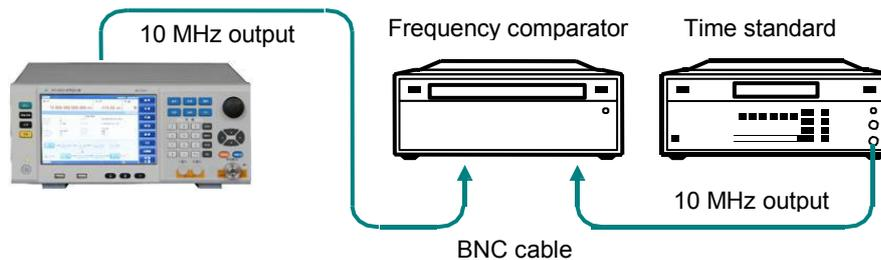

Figure 7.3 Test on internal time base aging rate
1. Connect equipment as shown in Figure 7.3.